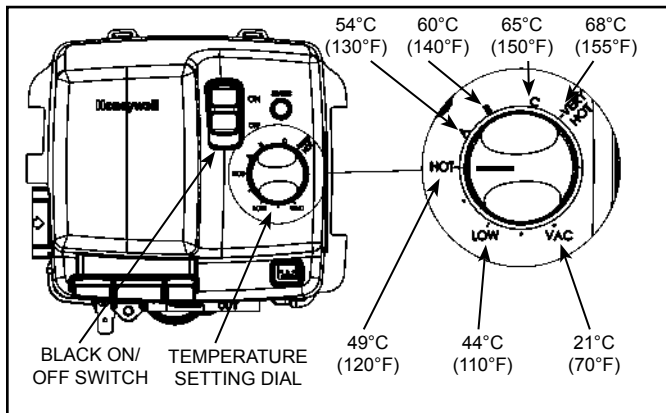
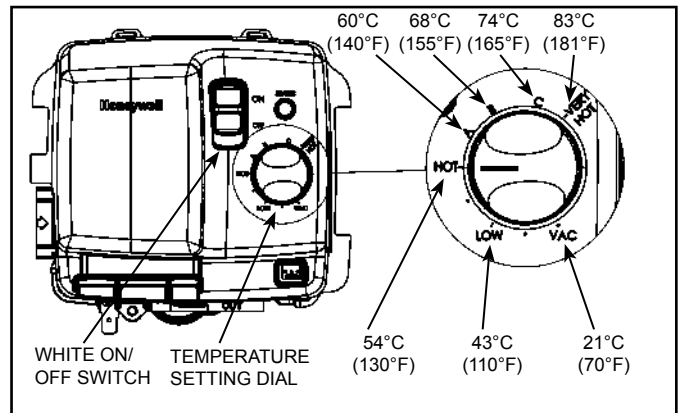

Figure 35
Figure 36
This water heater is equipped with an adjustable thermostat to control water temperature (see Figure 36 & Figure 35). Hot water temperatures required for automatic dishwasher and laundry use can cause scald burns resulting in serious personal injury and/or death. The temperature at which injury occurs varies with the person's age and time of the exposure. The slower response time of children, aged or disabled persons increases the hazards to them. Never allow small children to use a hot-water tap, or to draw their own bath water. Never leave a child or disabled person unattended in a bathtub or shower.
The thermostat settings on the gas control valve are shown in Figure 36 & Figure 35.
1. Turn the thermostat on the gas control to the lowest setting. If the heater is running, wait for it to shut down (see Figure 36).